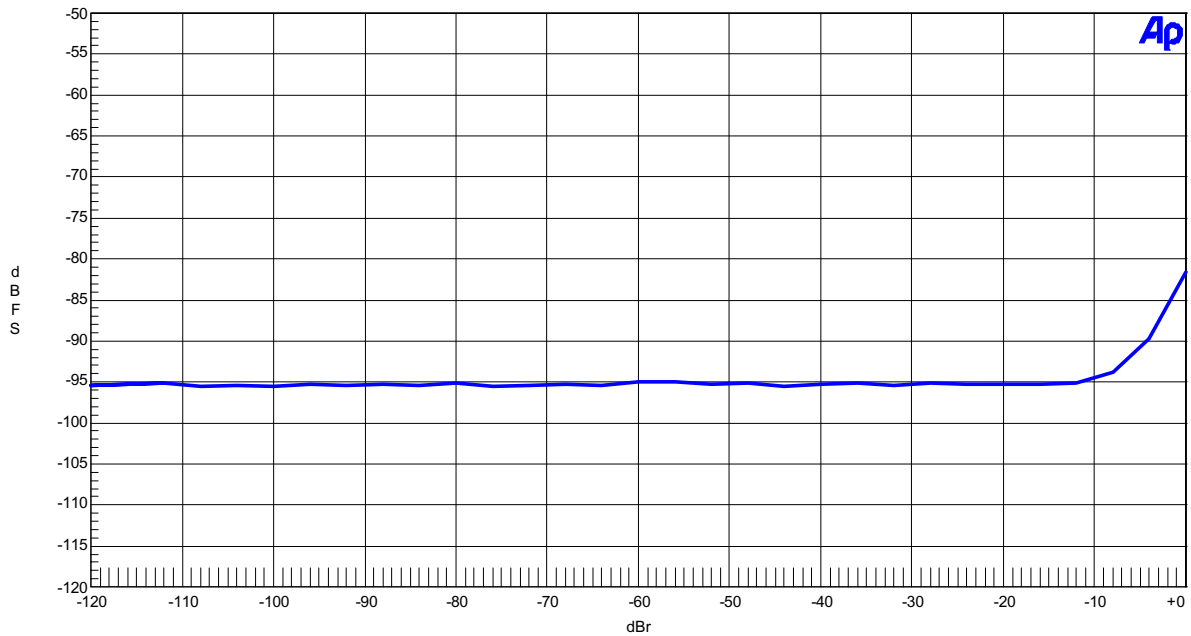

Figure 1-4. THD+N vs Input Level (fin=1kHz)
- Figure 1-4. THD+N vs. Input Level (fin=1kHz)